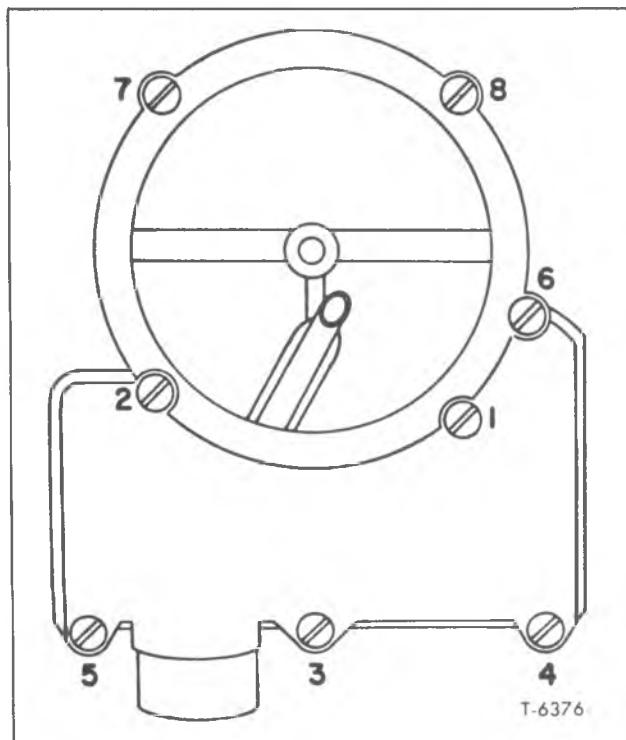

Figure 25—Air Horn Tightening Sequence
8. Place air horn on bowl making certain that accelerator pump plunger is positioned and will move freely. Raise air horn and lower straight down to ensure proper installation. Install screws and tighten securely in sequence (fig. 25).